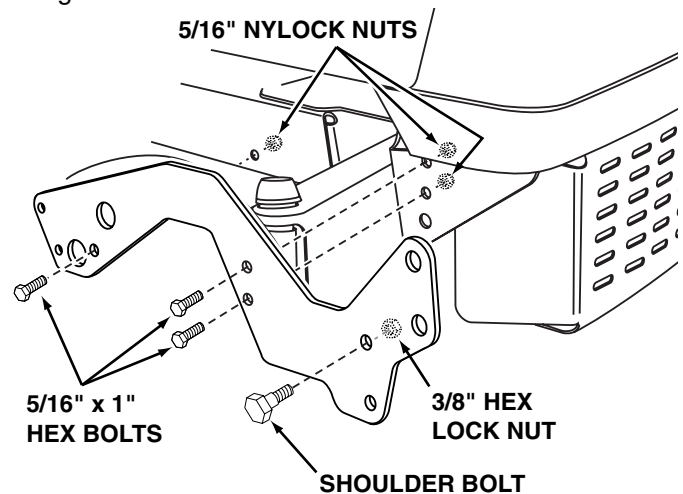

Figure 1
6. Attach a frame bracket to each side of the tractor frame. Assemble three 5/16" x 1" hex bolts and 5/16" nylock nuts to the holes shown figure 1.
7. Assemble a shoulder bolt and a 3/8" hex lock nut to the **upper** hole in each frame bracket as shown in figure 1.